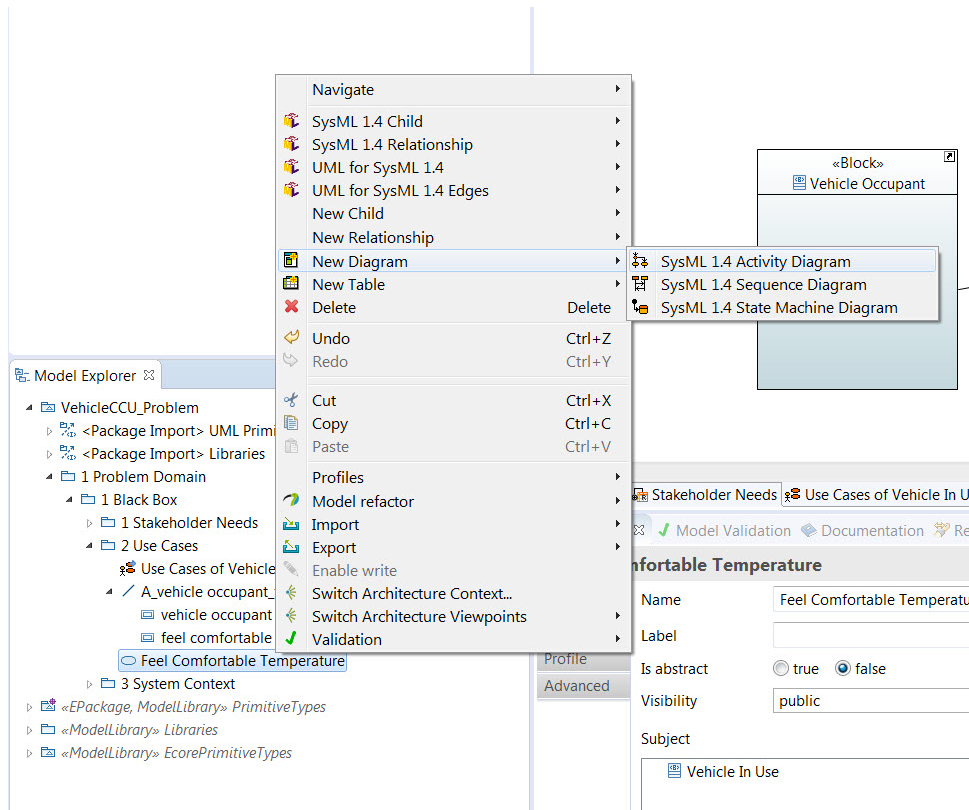
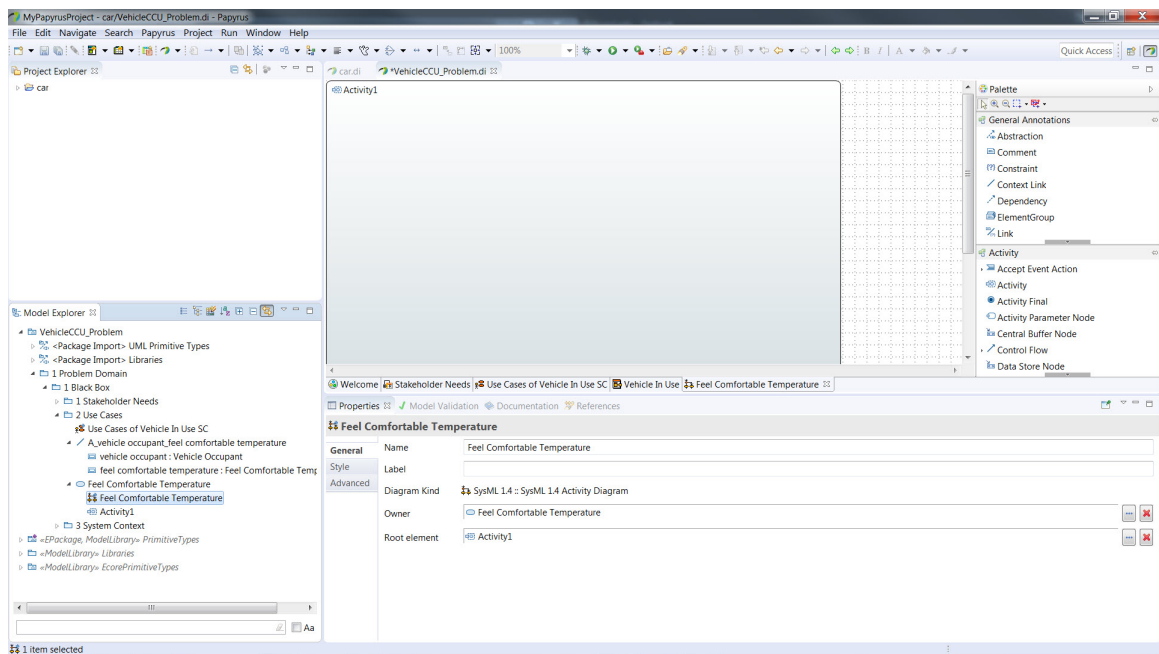

Figure 36: Create New Activity Diagram
Figure 37: *Feel Comfortable Temperature* Activity Diagram
- Now we will create an activity diagram for our use case. Right-click on the *Feel Comfortable Temperature* use case and then select **New Diagram** and then **SysML 1.4 Activity Diagram** (figure 36). Name the diagram *Feel Comfortable Temperature* (the same name as the use case). Your screen should look like figure 37. We now have the *Feel Comfortable Temperature* activity diagram as a child of the *Feel Comfortable Temperature* use case in the *Model Explorer* window.